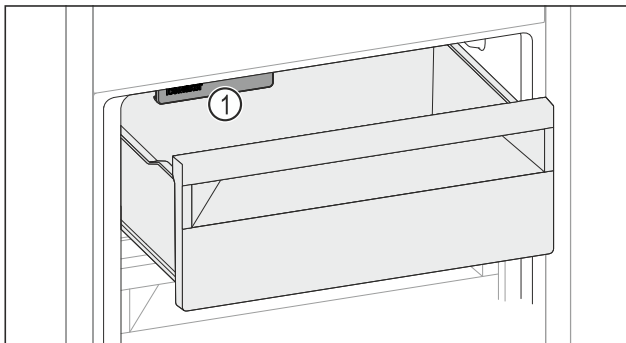

Fig. 169
- ▶ Watch out for the IceMaker Fig. 169 (1).